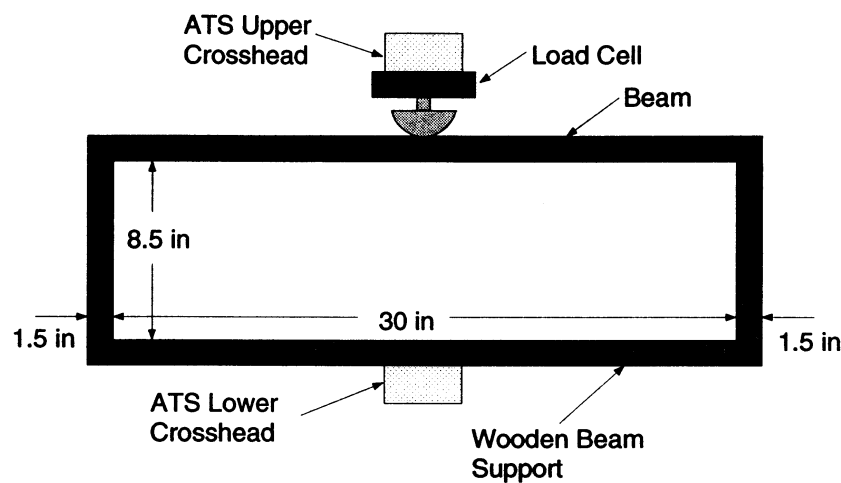

Figure 1: Support for three-point bending test of your beam design
One of the ATS machines will be used to load the beam using the configuration shown in Figure 1. **The beam must span 30 in. so, in reality, it will have to be a bit longer to have a bearing surface at each end.** The personal computer will be used to record the load applied to the beam and the displacement of the lower crosshead of the testing machine.
- The beam must fit within the testing apparatus (Fig. 1).
- The beam may not touch the vertical walls of the testing apparatus (Fig 1).